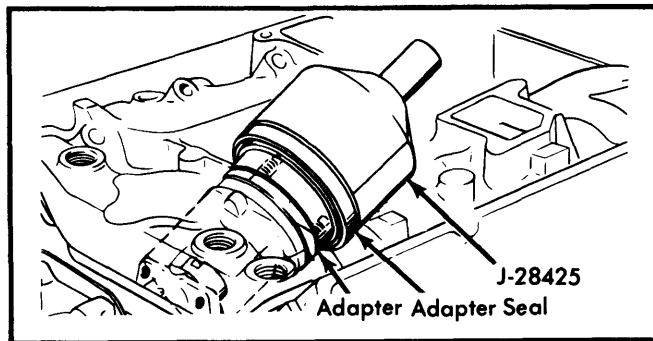

Fig. 8 Installation of New Adapter Seal
- 5) Push seal onto pump adapter using installation tool. See Fig 8.